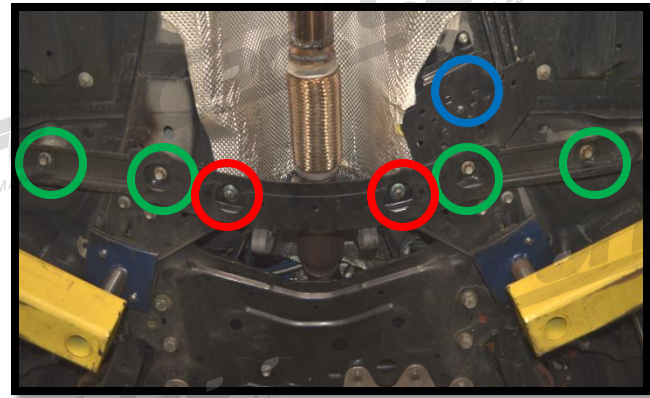

Figure 1a
- b) **Remove the factory cross brace** located right behind the engine subframe (shown in Figure 1a).
- Find the factory cross brace located** right behind the engine subframe (shown in **Figure 1a**). You are going to remove the four (4) 14mm bolts (**circled in green**) and the two (2) 14mm nuts (**circled in red**). There is also one (1) 10mm bolt (**circled in blue**) that needs to be removed. Once the hardware is removed you can place the cross brace to the side. This piece will be completely replaced. After you are finished, the underside will look like (**Figure 1b**).